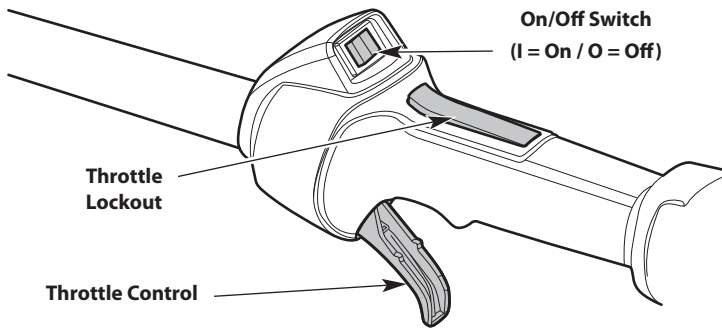

Fig. 13
NOTE: There is no need to turn the unit on. The On/Off switch is in the **On (I)** position at all times (Fig. 13).
3. Press and hold the throttle lockout (Fig. 13). Squeeze and hold the throttle control (Fig. 13).
2. Press and hold the On/Off switch in the **Off (O)** position until the engine comes to a complete stop (Fig. 13).
4. Press and hold the throttle lockout (Fig. 13). Squeeze and hold the throttle control (Fig. 13).